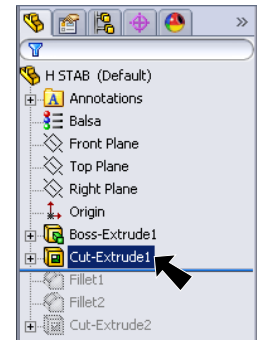

Fig. 40
Step 3. Click **Cut-Extrude1** in the Feature Manager and press **Delete** key on the keyboard, **Fig. 40**. Deleting the feature will prevent duplicate lines.